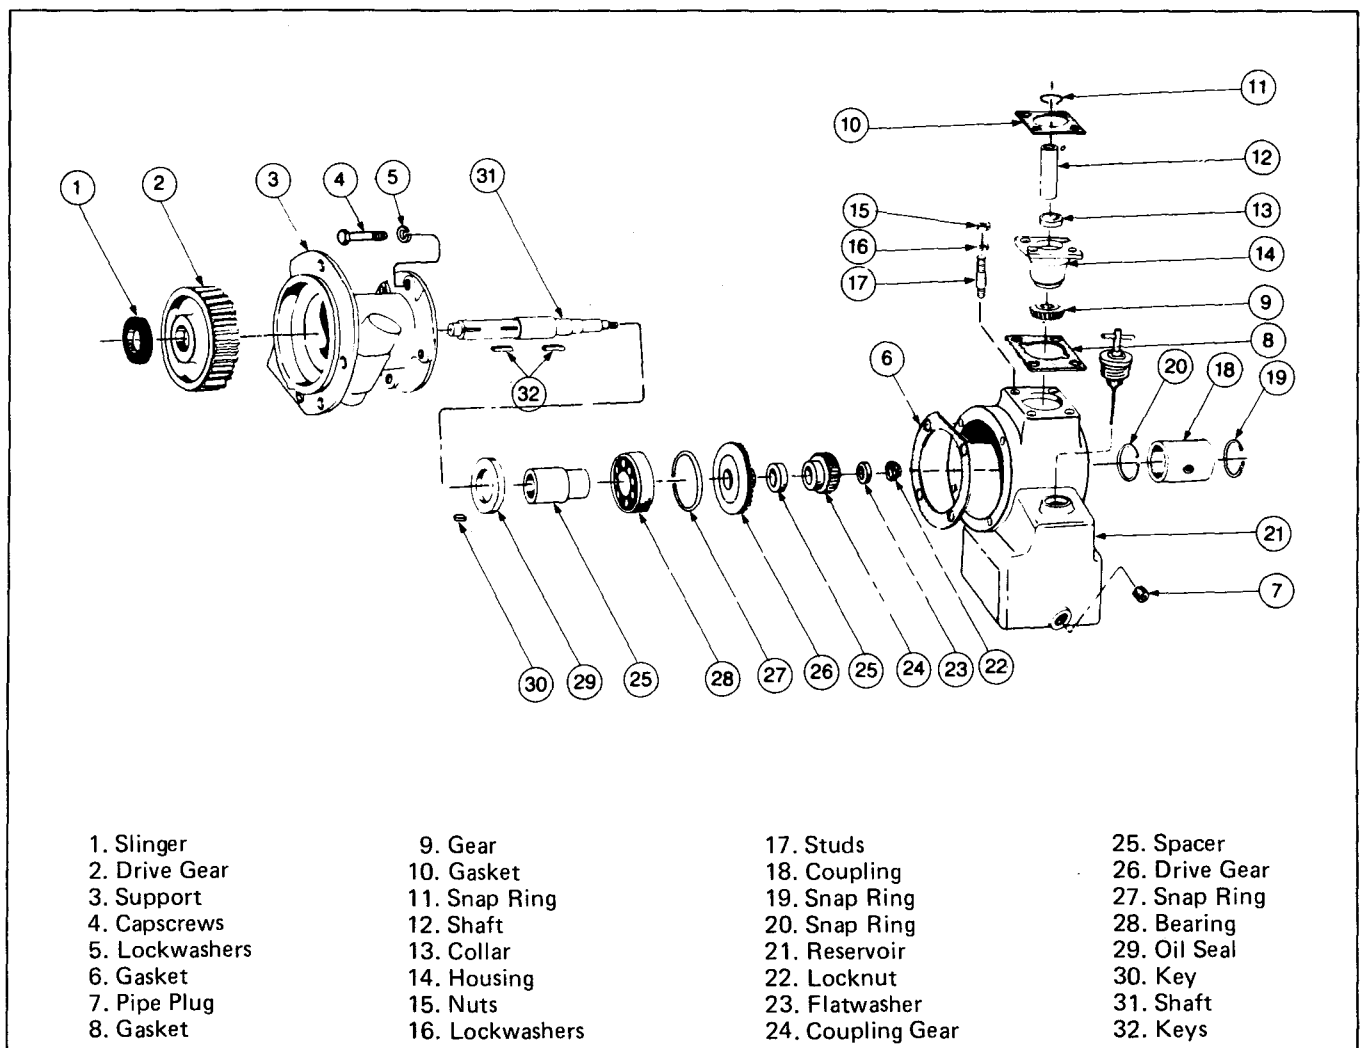

Fig. 9-3, (N10912). Fuel pump, hydraulic governor drive (Woodward Governor)
1. Remove governor drive assembly, snap ring (11, Fig. 9-3), ball key and collar (13).